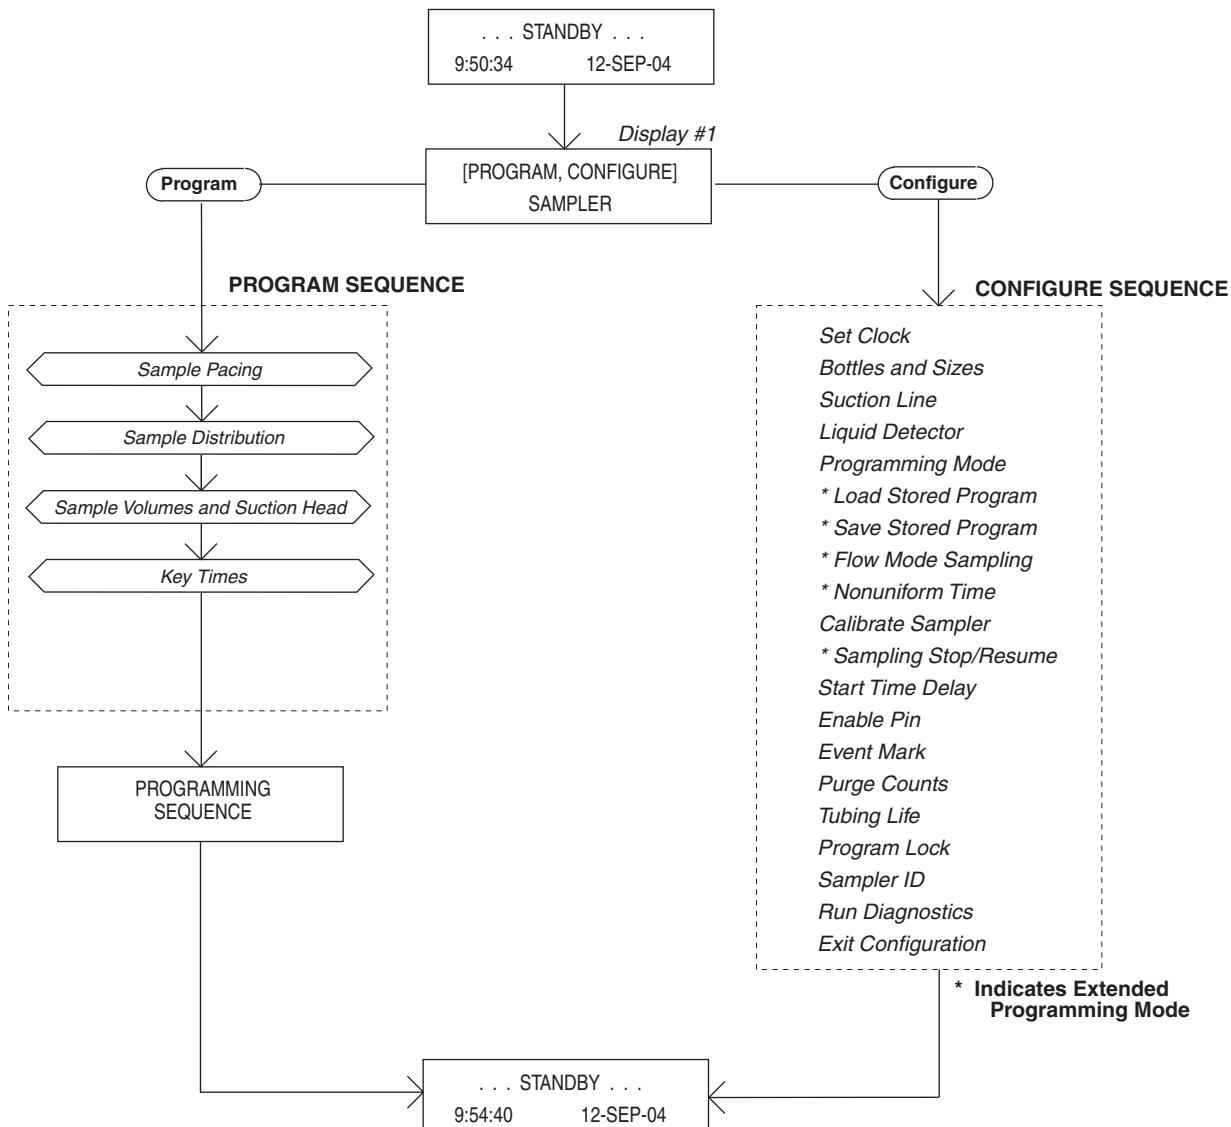

Figure 3-6 Interactive State Structure
**Interactive State** – The interactive state lets you program the sampler. The interactive state contains two branches: the program sequence and the configure sequence. Figure 3-6 diagrams the structure of the interactive state. The program sequence defines the sampling routine; it allows you to enter the interval between samples, the number of samples in each bottle, the sample size, and the start time. The configure sequence provides a number of setup options. Some configure options provide equipment specifications: bottle sizes, suction-line diameters and lengths, and so on. For example, the 3700 Standard can use different-sized sequential bottles: 350 ml and 1000 ml. You must enter the correct bottle size so that the sampler can calculate the range of sample volumes for a given number of samples and prevent overfilling. Other options allow you to set the sampler’s real-time clock, calibrate the sampler, or enable the password program protection.
Although the basic and extended program sequences vary in detail, you can divide both into four sections: Sample Pacing (interval between samples), Sample Distribution (number of samples in each bottle), Sample Volume (sample size in ml), and Key Times (start times or, in the extended mode, stop and resume times). These sections are noted in the Program Sequence section of the diagram shown in Figure 3-6.